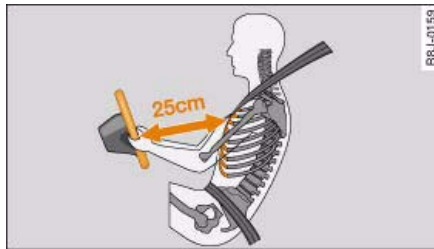

Fig. 199 Minimum distance between driver and steering wheel
- Adjust the steering wheel so there is a distance of at least 25 cm between the steering wheel and your breastbone ⇒ fig. 199.
- Adjust the driver's seat so there is a distance of at least 25 cm between your breastbone and the centre of the steering wheel ⇒ fig. 199.